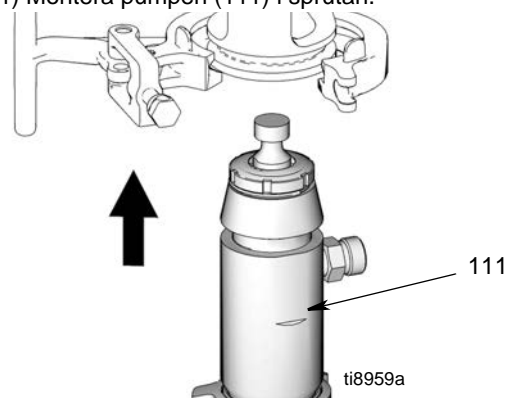

FIG. 21
2. (Fig. 21) Montera pumpen (111) i sprutan.